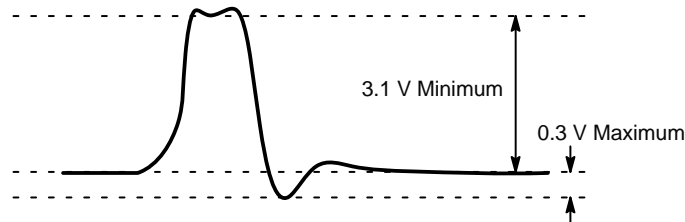

Figure 14. RG Clock Overshoot
2. Reset Clock Operation: The RG1, RG23 signals must be capacitive coupled into the image sensor with a 0.01 μF to 0.1 μF capacitor. The reset clock overshoot can be no greater than 0.3 V, as shown in Figure 14, below: